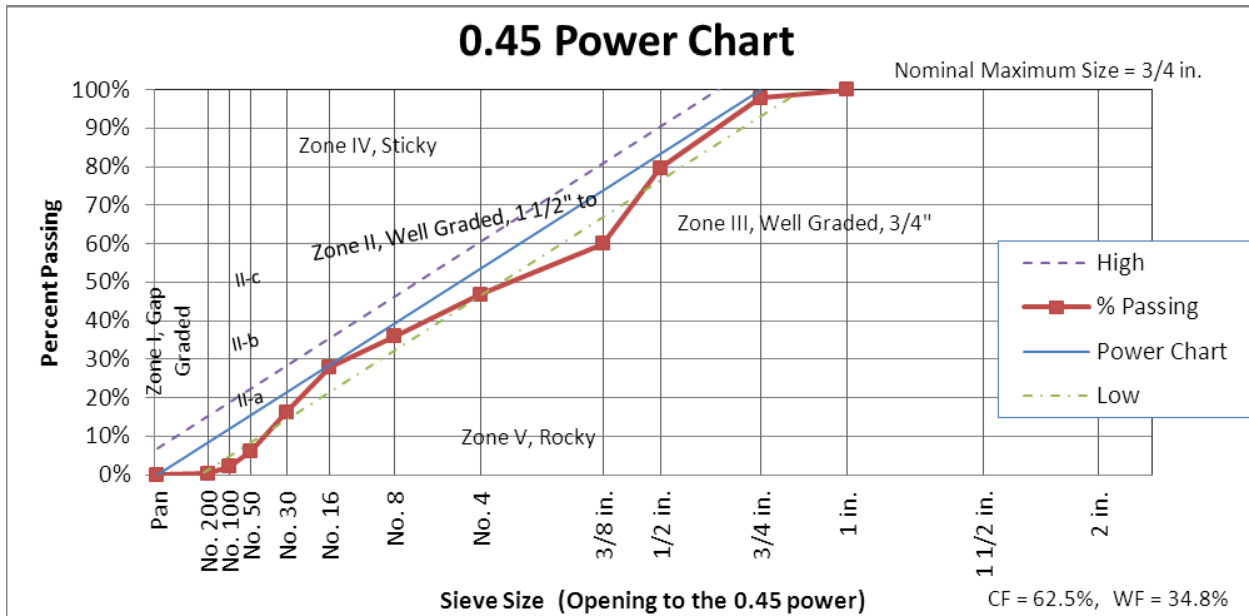

Figure 2: 0.45 Power Chart
- 0.45 Power Chart (Figure 2)
6.2 **0.45 Power Chart**—The 0.45 Power Chart (Figure 2) is created by plotting the cumulative percent passing (y-axis) vs. the sieve sizes raised to the power of 0.45 (x-axis). The cumulative percent passing should generally follow the maximum density line and should not deviate beyond the maximum and minimum tolerance lines. There may be a “hump,” beyond the tolerance line and above the maximum density line around the No. 16 sieve. There will always be a dip below the maximum density line around the No. 30 sieve. These deviations are typical and should not be cause for rejection of a gradation unless results from trial batches indicate workability problems.